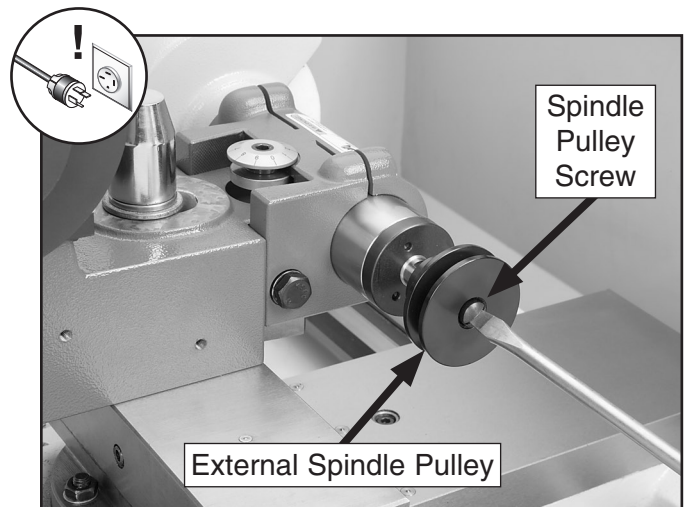

Figure 15. Removing the spindle pulley screw.
5. Turn the spindle pulley screw shown in **Figure 15** clockwise to remove it and the flat washer from the spindle.
5. Turn the spindle pulley screw clockwise to remove it and the flat washer from the spindle (see **Figure 15**).